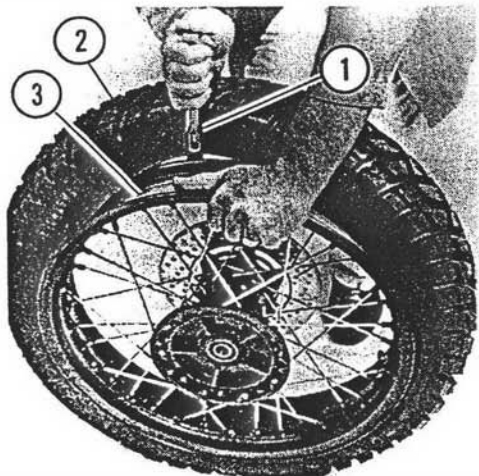

Figure 5-54. Removing Tire
12. See Figure 5-54. Turn wheel over. Using one tire iron (1), pry tire (2) over wheel rim (3) and remove tire. If necessary, tire sidewall may be struck with a soft-headed mallet to assist removal.